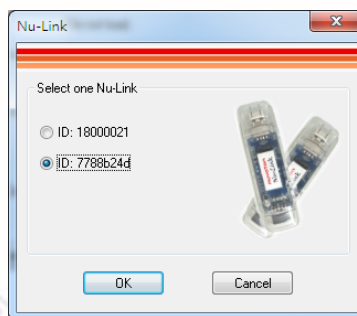

Figure 4-6 Select One Nu-Link Adapter
- Step 7: If two Nu-Link Adapters have been connected with the computer, a message appears and asks to select one from the two adapters. Clicking **OK** will connect the selected adapter with the host, as shown in Figure 4-6. When a Nu-Link Adapter is selected for connection, the Status LED starts blinking. For the blinking details, refer to the Status LED description of the “Select a Nu-Link Adapter to connect with the host” in Table 2-4.